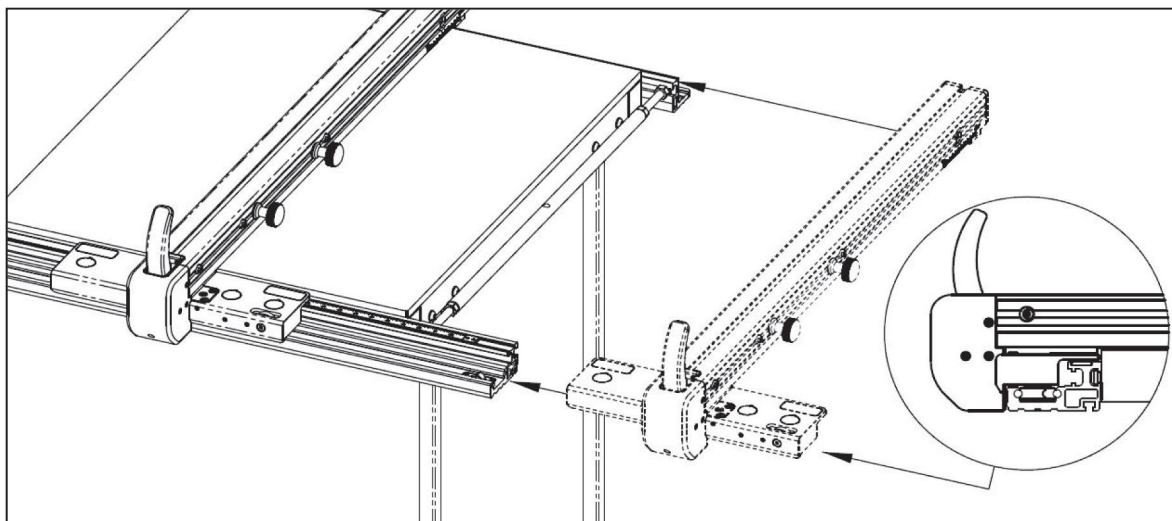

Fig. 6-19
- 3. Insert the fence assembly (C) into the guide rail, following the illustration in Fig. 6-19. Ensure that the locking handle is lifted (disengaged) to facilitate sliding the fence onto the rails, with the bearings on the fence aligning with the steel rods on the front rail.